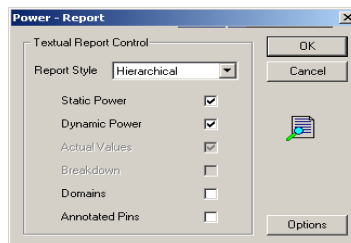

Figure 2-2. Power Report Dialog Box
1. **In the Tools menu, click *Report Power*.** The Power Report dialog box appears (Figure 2-2). You have the following options: